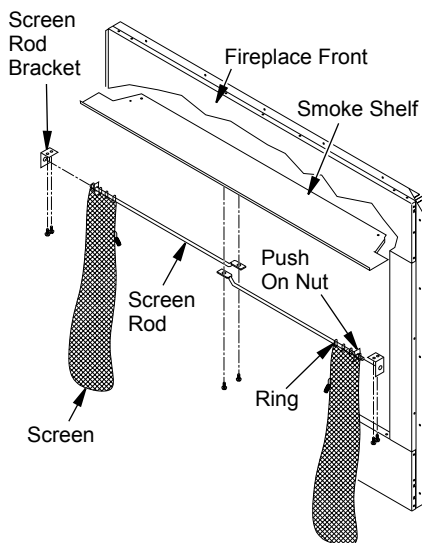

Figure 26 - Installing Fireplace Screen
1. Mount screen rod brackets on left and right side of smoke shelf with #8 x 1/2" screws provided (see Figure 26).
4. Mount flat end of screen rod with #10 x 5/8" to center of smoke shelf (see Figure 26).